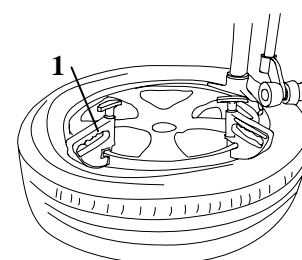

Fig12
2. Make tyre top bead upon rear of demounting/mounting head and below front of demounting/mounting head, move right pressing arm and make sure it is locked, pull handle D down to make roller C,G to press top bead to position below demounting/mounting head. Lock pressing block 1 on rim edge, rotate turntable, finish tyre mounting.(Fig 12)